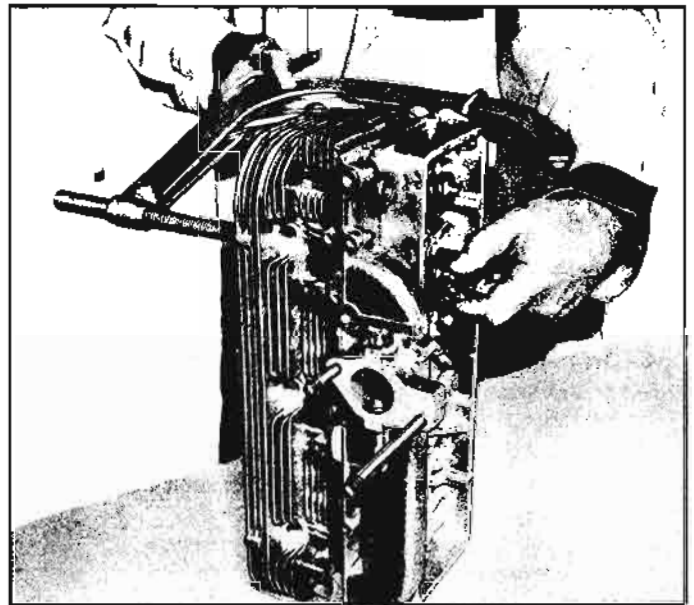

Fig. 6A-52—Removing Valves Using Tool J-8062
1. Place cylinder head assembly on one end of a bench and, using Tool J-8062 with off-set jaws, compress valve spring and remove valve locks as shown in Figure 6A-52.
2. Release Tool J-8062 and remove valve spring cap, spring, shim and valve (fig. 6A-53). Repeat this operation on each valve assembly.